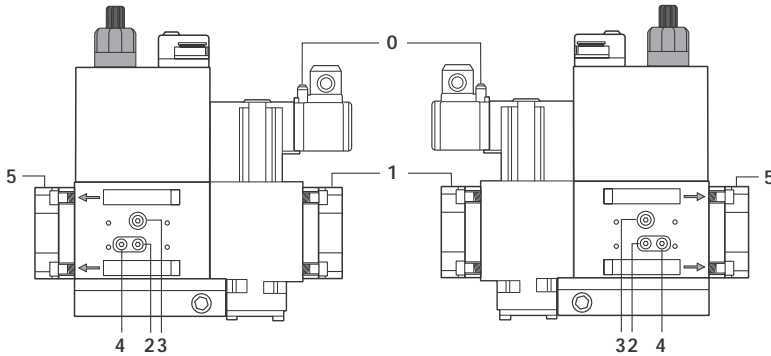
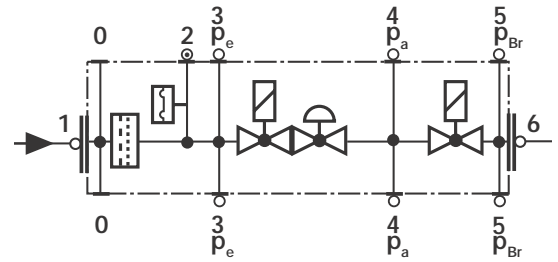

Fig. 31
Fig. 32
- Change the filter if the pressure difference between pressure connection 1 and 2 (Fig. 31-Fig. 32) $\Delta p > 10$ mbar.
- Change the filter if the pressure difference between pressure connection 1 and 2 (Fig. 31-Fig. 32) is twice as high compared to the last check.